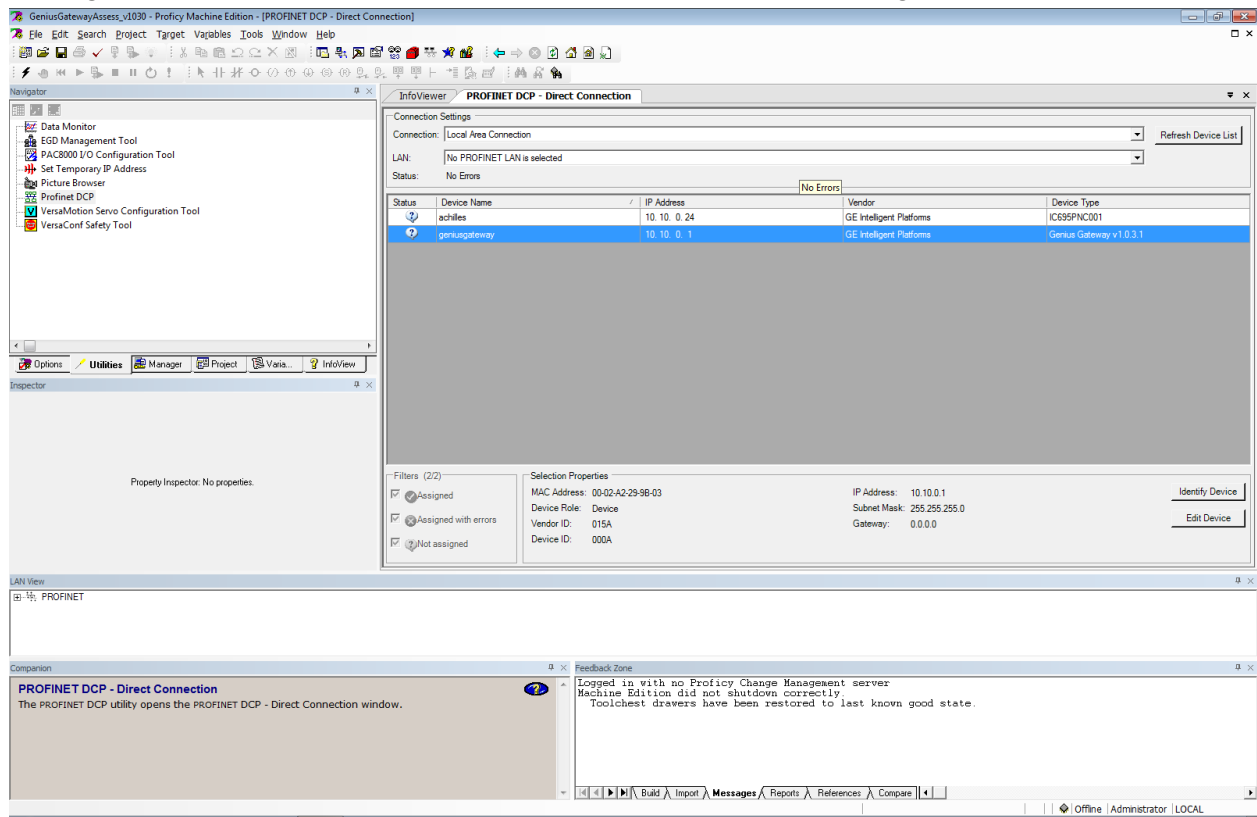

Figure 12: PROFNET Discovery Screenshot
4. Use PROFINET/DCP tool in PME to assign a name to the GCG001 Gateway so that the PROFINET Controller can connect to it and send its configuration. To do this, right-click the PNC001, then select **Launch Discovery Tool** GCG001. The tool will appear in a new InfoViewer tab entitled **PROFINET DCP – Direct Connection** (see Figure 12).
**Note:** **geniusgateway...** is the default PROFINET **Device Name** that PME gives to a GCG001 in the Hardware Configuration under a PNC001. This **Device Name** must match that given to the module itself using the PROFINET/DCP (Discovery and Configuration Protocol) tool (Figure 12). If there are multiple GCG001s on a PROFINET bus, each of the modules' **Device Names** must be unique. You can change it by selecting the device in the Navigator, then typing in a new name in the Inspector.